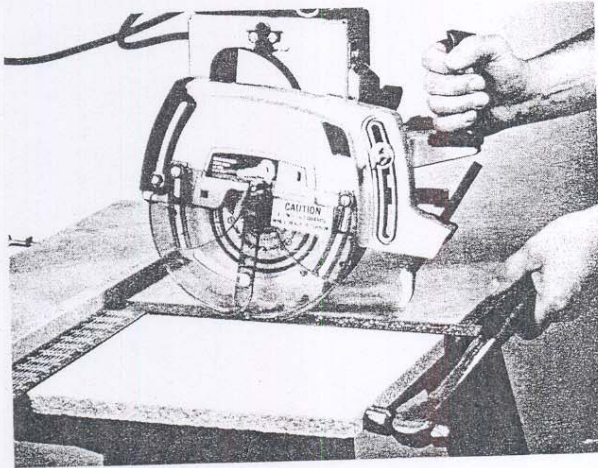

Fig. A3
4. Since the nuts which hold the table to the frame are not tight, you can shift the entire table in relation to the arm by tapping the table corners with your hand or lightly with a hammer (Fig. A3 on next page).
- c.) After all (4) nuts are snug, take up on the first again a little more and repeat on all the other nuts.